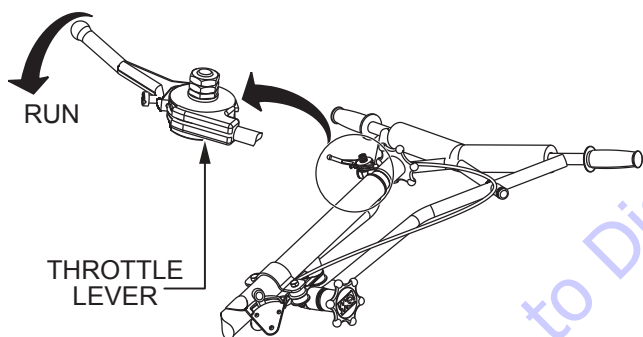

Figure 7. Throttle Lever (RUN)
3. Place the throttle lever (Figure 7) in the **RUN** position.